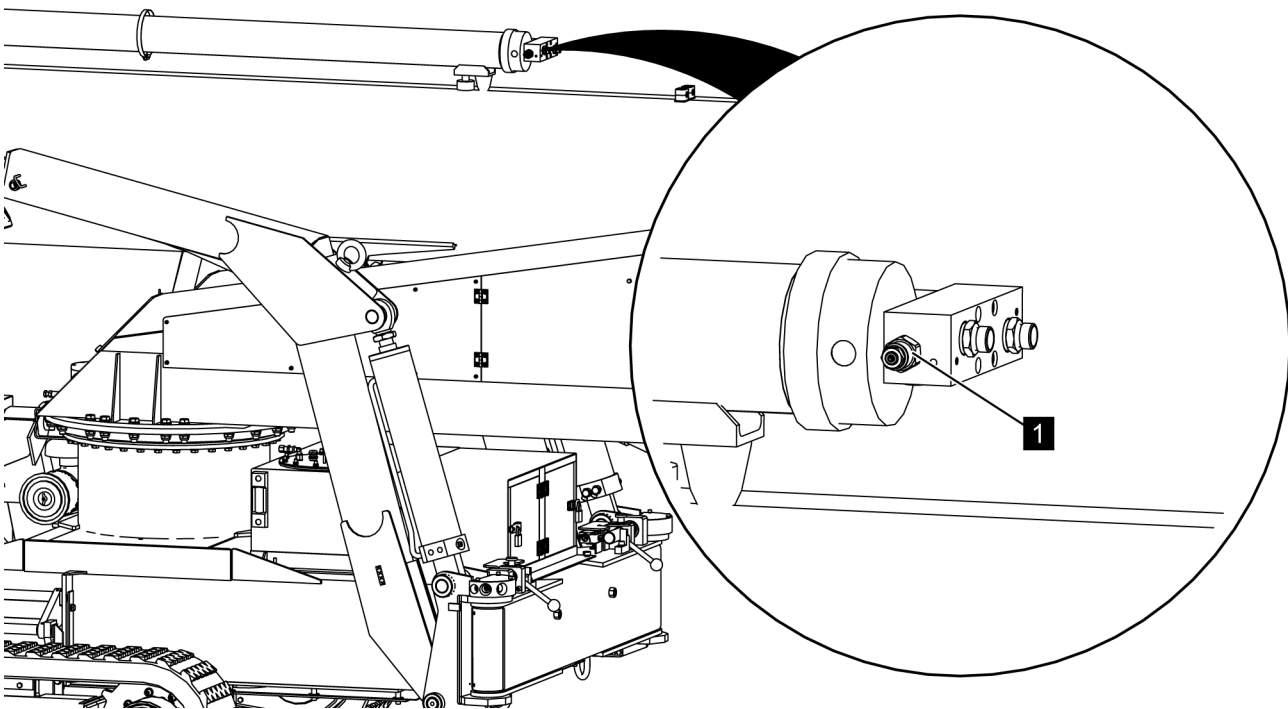

Fig. 103: Emergency drain
4. ➤ Loosen the hexagon nut (Fig. 103/1) on the valve block.